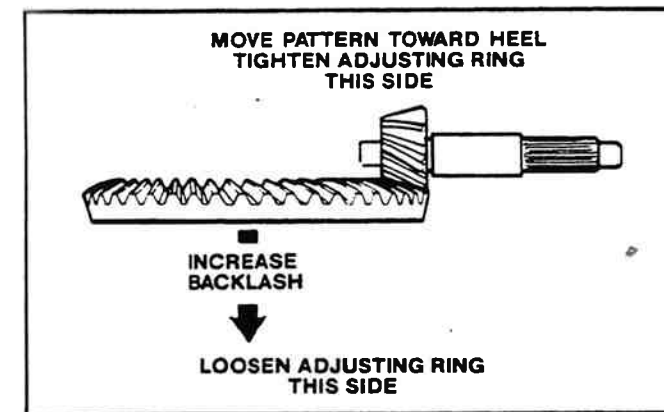

Figure 2-96. Moving Contact Pattern Toward Heel Of Ring Gear Teeth.
b. Increase backlash to move the contact patterns toward the heel of the ring gear teeth (Figure 2-96).